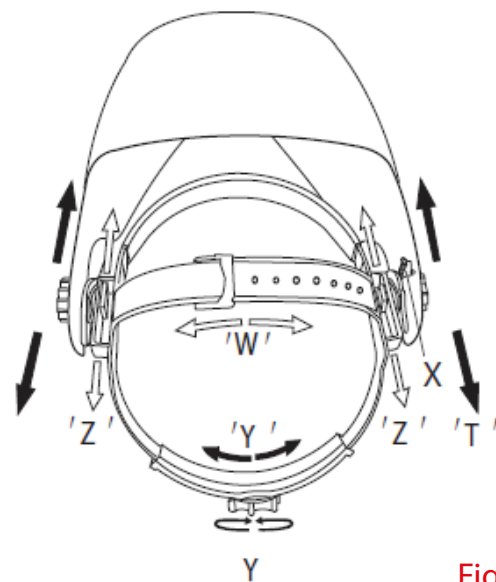

Fig4
4.1. Headgear top (see adjustment "W" in the fig. 4)
4.3 Headgear tightness (see adjustment "Y" in the fig. 4)
4.4 Angle adjustment (see adjustment "X" in the fig. 4) Four pins on the right side of the headgear top provide adjustment for the forward tilt of the helmet. To adjust, loosen the right outside tension adjustment knob then lift on the control arm tab and move it to the desired position and retighten tension adjustment knob.